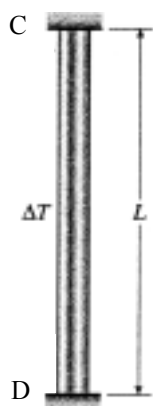

Fig. 1
1. A prismatic bar CD of length L and cross-sectional area A is held between immovable supports (Fig. 1). If the temperature of the bar is raised uniformly by an amount ΔT , what thermal stress σ_T is developed in the bar? (Assume that the bar is made of linearly elastic material. E and α are the modulus of elasticity and coefficient of thermal expansion of the bar, respectively.) (25%)